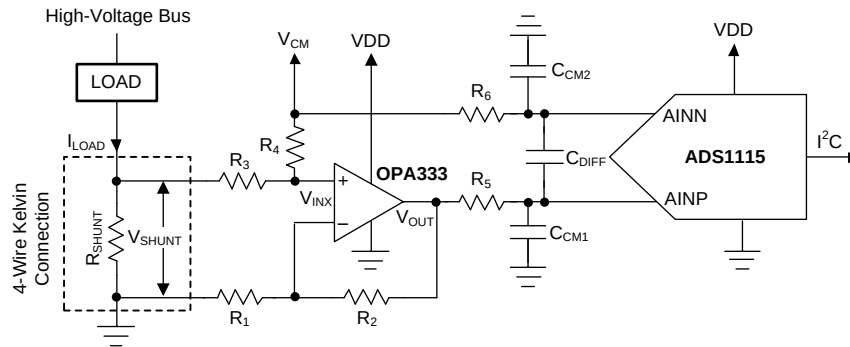

Figure 44. Low-Side Current Shunt Monitoring
Shunt-based, current-measurement solutions are widely used to monitor load currents. Low-side, current-shunt measurements are independent of the bus voltage because the shunt common-mode voltage is near ground. Figure 44 shows an example circuit for a bidirectional, low-side, current-shunt measurement system. The load current is determined by measuring the voltage across the shunt resistor that is amplified and level-shifted by a low-drift operational amplifier, OPA333. The OPA333 output voltage is digitized with ADS1115 and sent to the microcontroller using the I²C interface. This circuit is capable of measuring bidirectional currents flowing through the shunt resistor with great accuracy and precision.
1. To level-shift the ground-referenced signal to allow bidirectional current measurements while running off a unipolar supply. The voltage across the shunt resistor, V_{SHUNT}, is level-shifted by a common-mode voltage, V_{CM}, as shown in Figure 44. The level-shifted voltage, V_{INX}, at the noninverting input is given by Equation 5.
A shunt resistor (R_{SHUNT}) is an accurate resistance inserted in series with the load as shown in Figure 44. If the absolute voltage drop across the shunt, $|V_{SHUNT}|$, is a larger percentage of the bus voltage, the voltage drop may reduce the overall efficiency and system performance. If $|V_{SHUNT}|$ is too low, measuring the small voltage drop requires careful design attention and proper selection of the ADC, operation amplifier, and precision resistors. Make sure that the absolute voltage at the shunt terminals does not result in violation of the input common-mode voltage range requirements of the operational amplifier. The power dissipation on the shunt resistor increases the temperature because of the current flowing through it. To minimize the measurement errors due to variation in temperature, select a low-drift shunt resistor. To minimize the measurement gain error, select a shunt resistor with low tolerance value. To remove the errors due to stray ground resistance, use a four-wire Kelvin-connected shunt resistor, as shown in Figure 44.